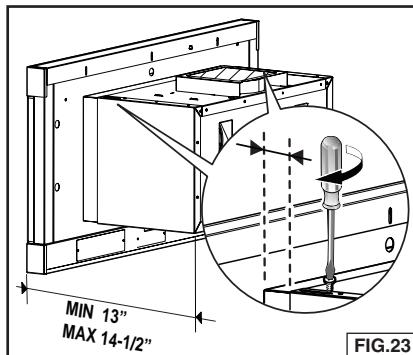

FIG.23
1. Loosen (2) screws on top of the range hood housing. Fig. 23.
3. Re-tighten (2) screws on the top of the range hood.